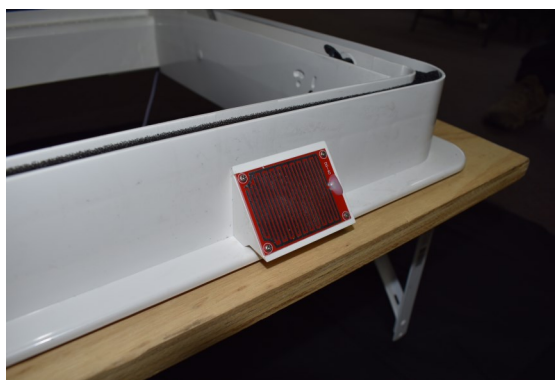
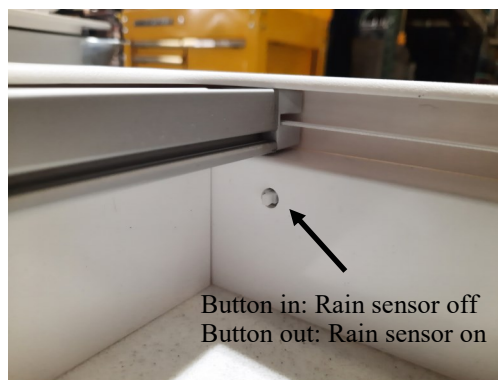

Figure 15
Figure 16
1. The rain sensor, shown in *Figure 15*, is designed to close an open roof hatch if it is raining and water contacts the sensor. During normal operation it is not possible to open the roof hatch until the rain sensor has dried. This can be an issue during brief rain storms and with that in mind we have installed a rain sensor disconnect switch pictured in *Figure 16*.